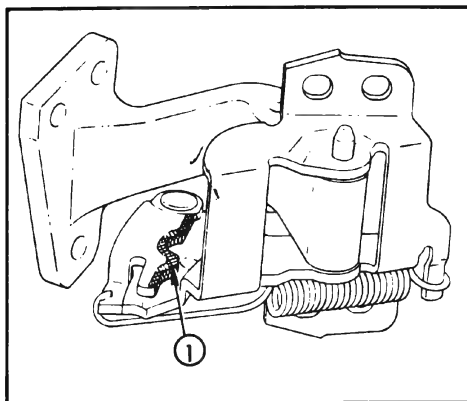

Figure 1-16—Front Door Hinge Hold-Open Assembly
1. Front Door Hinge Hold-Open Assembly. Wipe off dirt and apply a light coat of Lubriplate or its equivalent at points indicated (Figure 1-16). The hinge pins should be lubricated with engine oil.